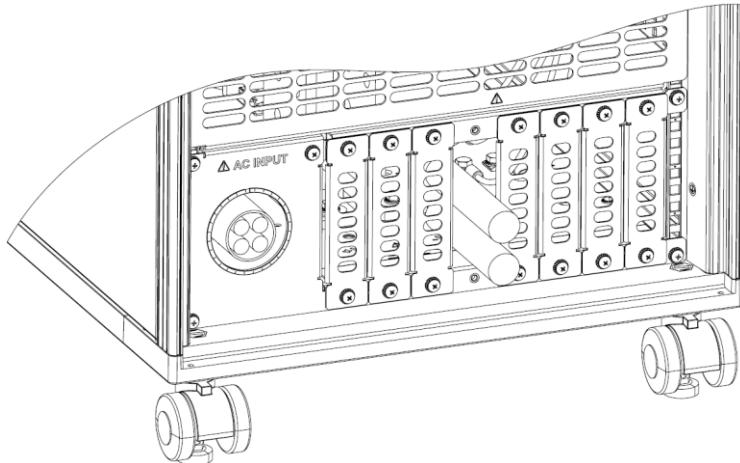

Figure 4-16: Assembly of Output Protection Slots
3. Assembly the output protection slots as shown in Figure 4-16.